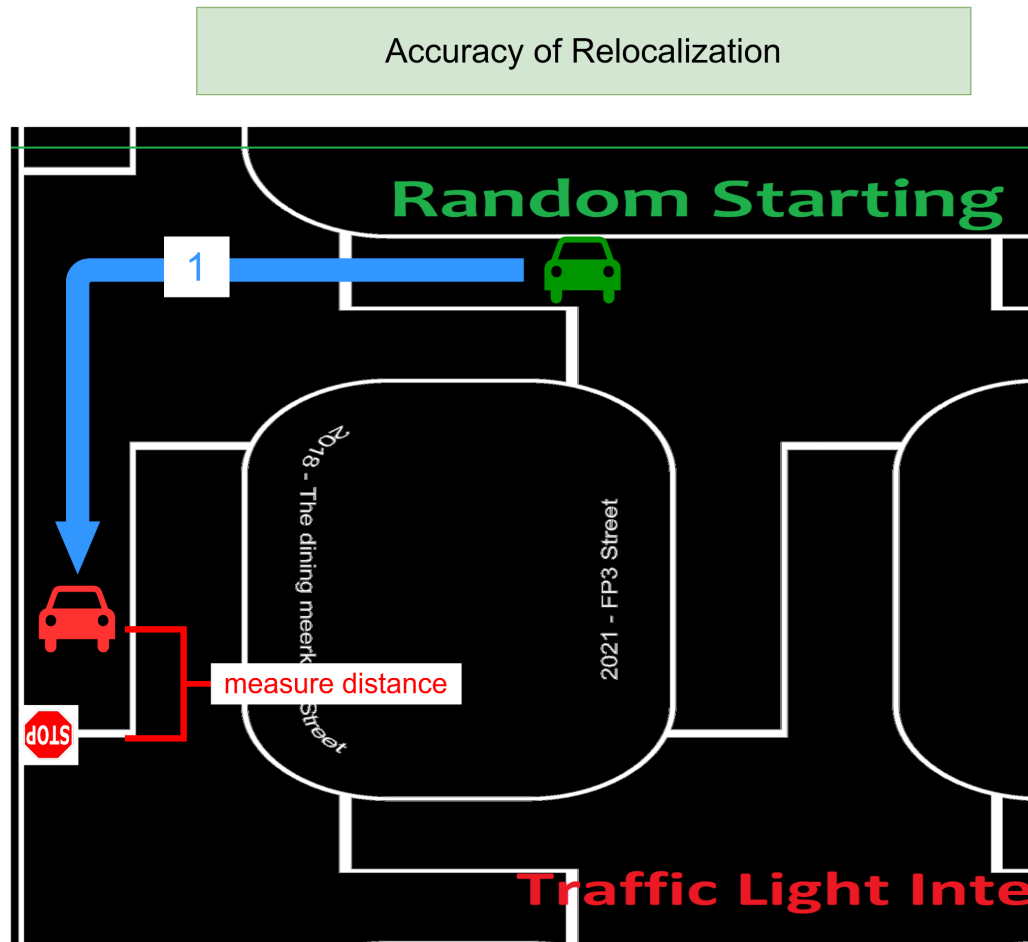

Figure 3 : Proposed trajectory of the car, relocalization testing
Figure 3 shows the proposed trajectory of the car to evaluate its ability to relocalize itself after having moved a little bit. The car will start by moving in a straight line before turning left when it reaches the intersection (1). As it gets close to the following intersection, it will stop when it sees the stop sign and relocalize itself. The position if relocalizes itself to should be compared with the actual position of the car on the track.